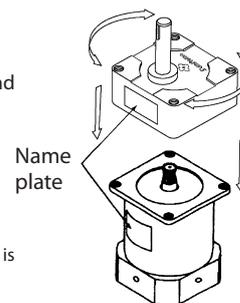

Fig.3
- Install motor and gearhead, putting both contact surfaces together like fig.3 while rotating them little by little. Forcing into motor shaft and bumping into the inside of gearhead, at assembly, may cause abnormal noise by broken gear and shorten the operating life.